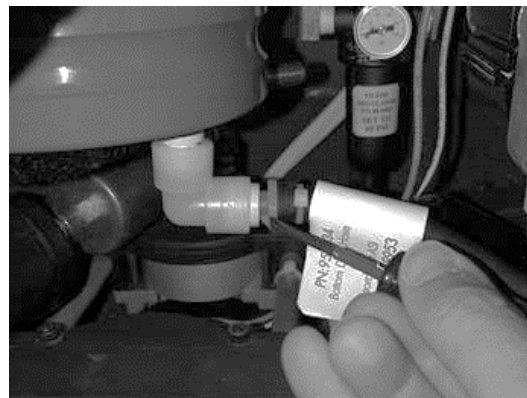

Fig. 6
**For bottom drain connections, refer to Fig. 6.**